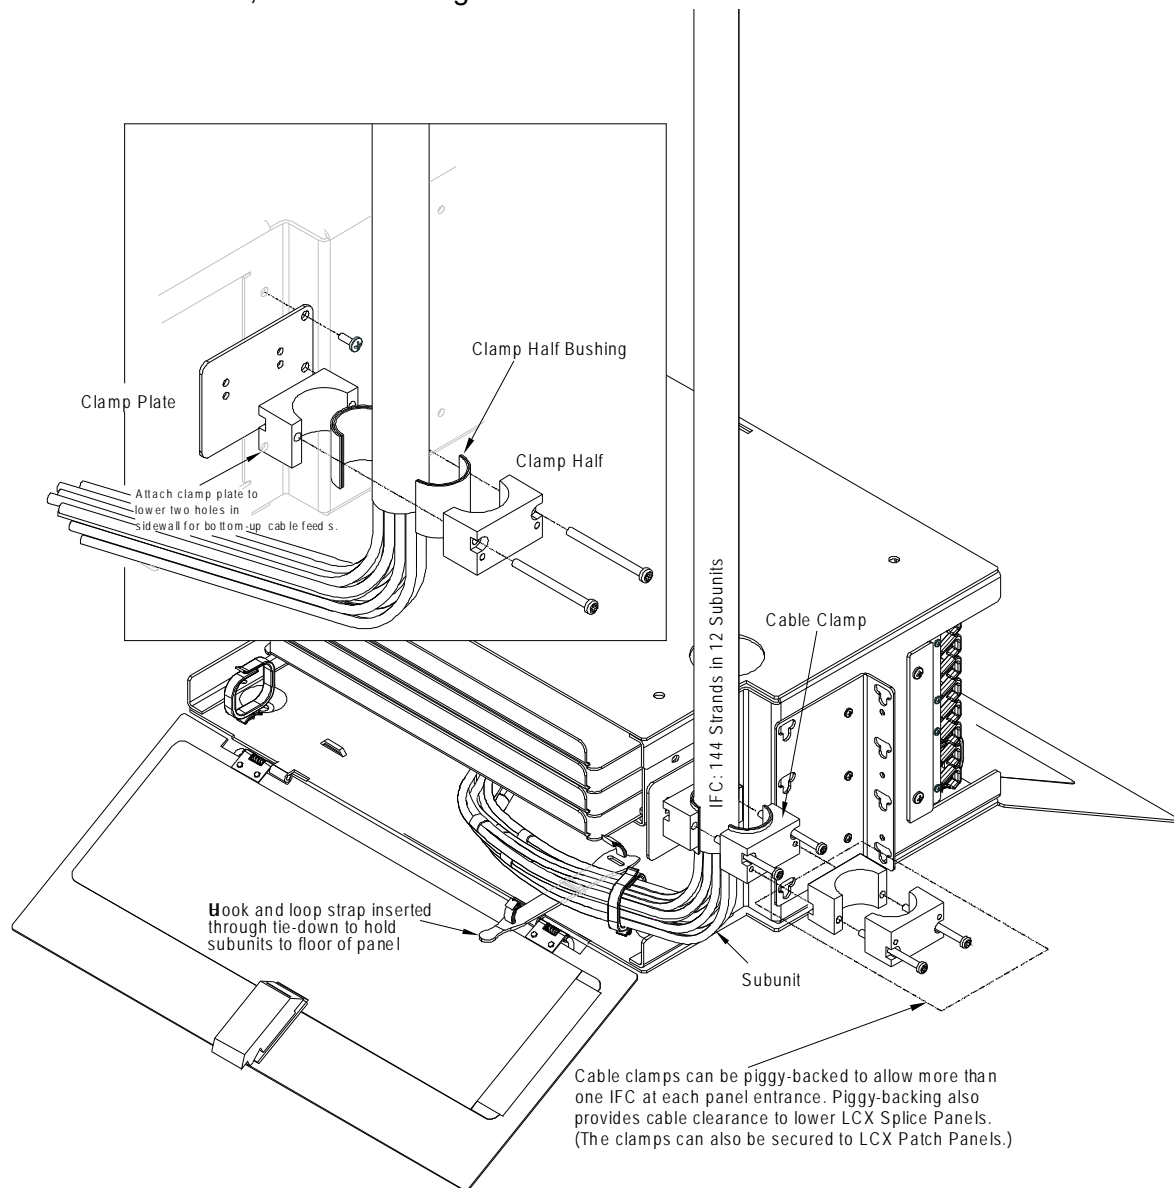

Figure 43 - Installing IFC for Splicing
The bushing kit contains a cylinder of bushing leaves, as shown on the right. Measure the diameter of the IFC and then remove and discard that much from the interior of the cylinder. The remaining bushing halves are used between the clamp halves and the IFC, as shown in Figure 43.
8. As shown in Figure 43, place tubes in plastic ring at panel entrance and then use supplied cable ties (or other restraint) to tie down tubes to the floor of the panel.
NOTE: If network element jumpers are routed in the IFC cable, use the same type of cable clamp, attached in the same way, as shown in Figure 43.
4. Assemble the cable clamp, as shown in Figure 43.